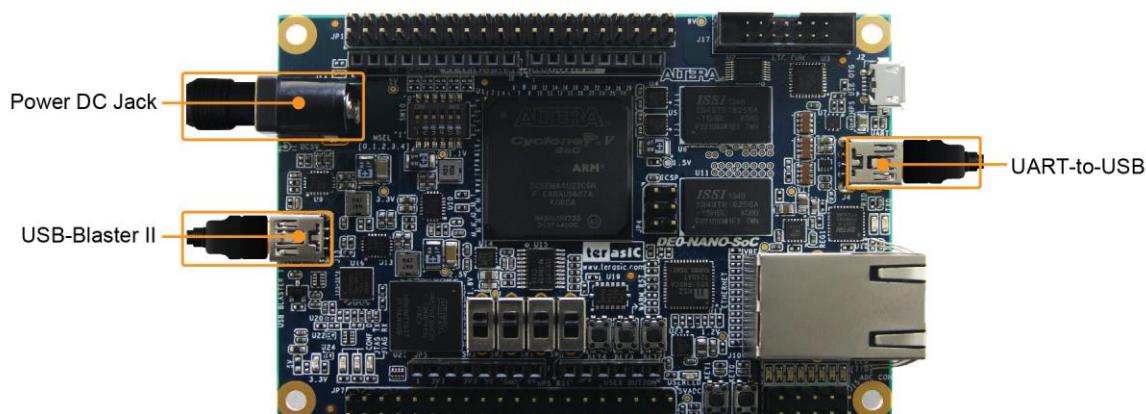

Figure 3-2 USB and Power Cables
Cable connections are shown in **Figure 3-2** as below:
1. Connect your computer to the development board by plugging the USB cable into the USB connector (J13) of DE0-Nano-SoC (connection shown in Figure 3-2)
1. Connect your computer to the development board by plugging the USB cable into the micro USB connector (J4) of DE0-Nano-SoC (connection shown in Figure 3-2)